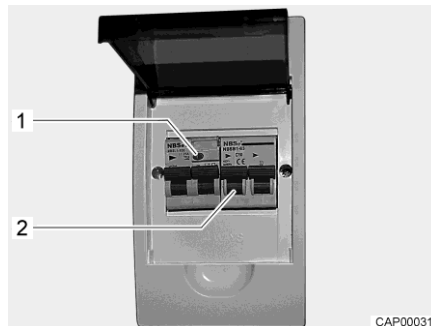

Fig. 69 230 V fuse box with safety cut-out and FI-switch
A fault current protection switch (FI-switch) in the fuse box protects the complete vehicle from fault current (0.03 A). A downstream safety cut-out (10 A) (Fig. 69,2) secures the 230 V power supply.
- When the vehicle is connected to the 230 V power supply, press the test button (Fig. 69,1). The fault current protection switch must trip.